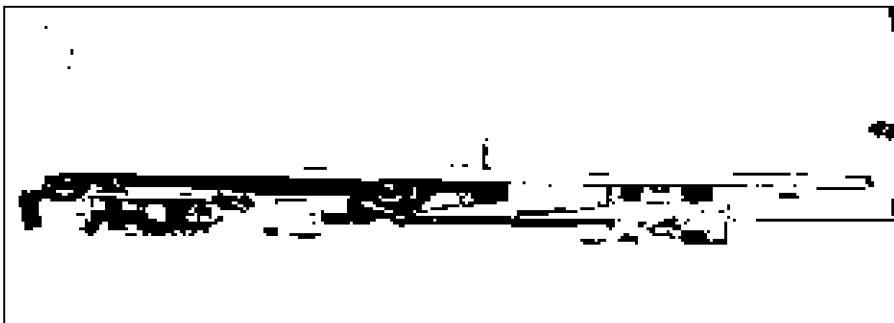

Figure 8-10:
5. Place the soft, peel-and-stick *EMI gasket* (shown in Figure 8-10) that came with your new drive on the upper-center edge at the front of the drive. If you didn't get a gasket, remove the gasket from your old drive and place it on the new drive.